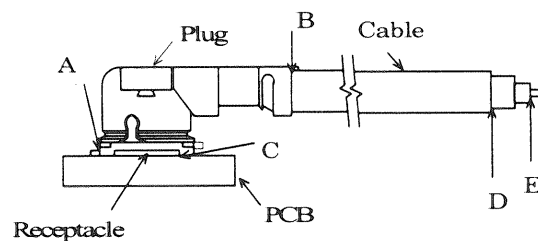

Fig.1
(1) Contact Resistance / 接触抵抗
- A. Testing: Solder the receptacle connector to the test board and mate the plug connector together, then measure the contact resistance as shown in Fig.1 by the four terminal method. Apply the low level condition in accordance with MIL-STD-202, Method 307.
- A. 試験法: テスト基板にリセプタクルコネクタを半田付けし、プラグコネクタと嵌合させ、Fig. 1のように4端子法にて下記の条件で測定する。MIL-STD-202 試験法 307 に準拠。